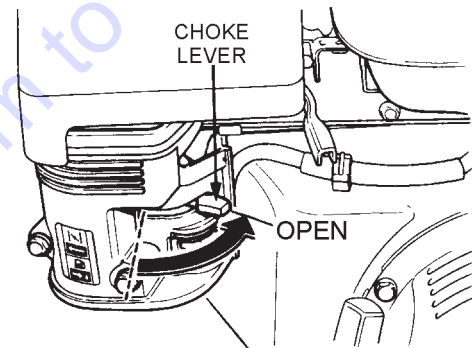

Figure 10. Engine Choke Lever (Open)
4. Place the choke lever (Figure 10) in the “OPEN” position if starting a warm engine or the temperature is warm.